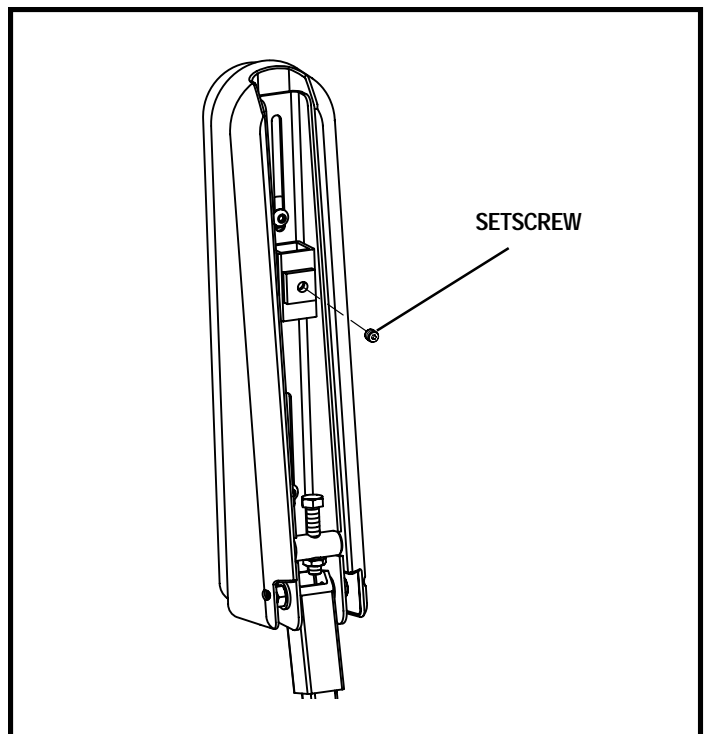

Figure 20. Underside of Armrest
5. Locate the setscrew on the underside of the armrest. See figure 20.